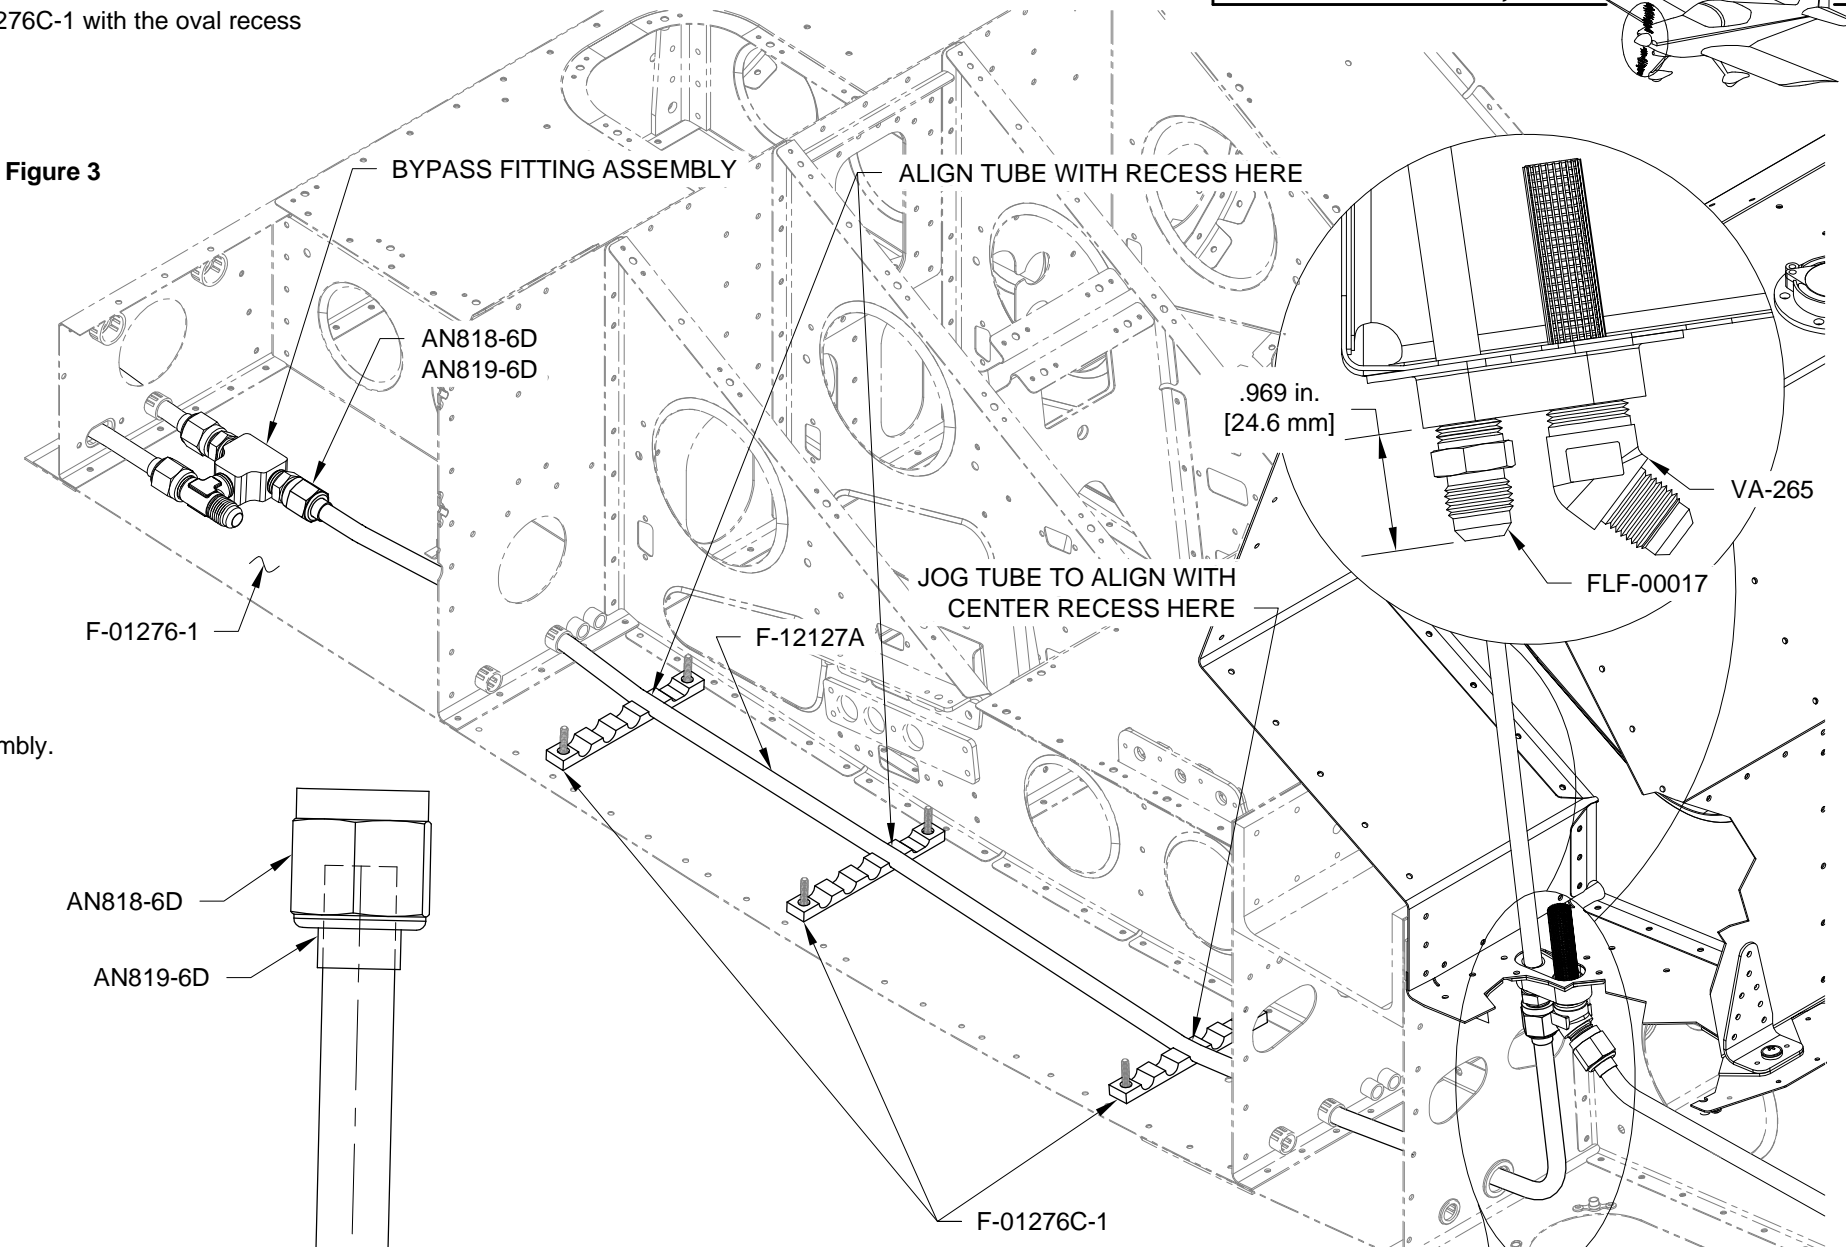

FIGURE 1: F-12127A BYPASS FITTING TO TANK FUEL LINE INSTALLATION
Step 6: Detach the F-12127A from the FLF-00017, slide the tube back, and cut off the excess tube at the mark. Place the nut and sleeve called out in Figure 1 over the bypass end of the tubing and then flare the end of the tube.
Step 7: Attach the F-12127A to the Bypass Fitting Assembly as shown in Figure 1.
Step 8: Reattach the F-12127A to the FLF-00017 as shown in the detail view in Figure 1. A small amount of bending/adjustment by hand is acceptable. Check for clearance at the aft most snap bushing.